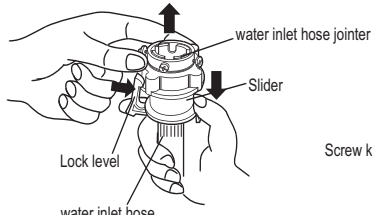
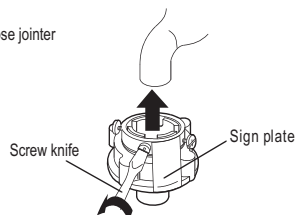
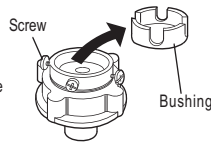

Figure 1
Figure 2
Figure 3
<p>Clean the detergent box and set it on the control panel seat.</p> <p>1.The method of dismantle: Push it up aslant and gently.</p> <p>2.The method of install : install it upwards and aslant and push it in .</p>  <p style="text-align: center;">Dismantle Install</p>	<ul style="list-style-type: none"> • The lint filter must be used during washing. • It must be cleaned in time after each using. <p>Lint filter:</p> <ol style="list-style-type: none"> 1.Push down the spring piece of the top lint filter to make the claws out of the filter cover, and then pull out the lint filter to get it down. (figure1) 2.Pull the back of the lint filter, and then you can get down it off the front cover of the lint filter. (figure2) 3.Sweep the rubbish in the lint filter. 4.Put the back of the lint filter into the front cover . 5.Put the lint filter into filter cover, and make it tight . 6.Make sure the lint filter well installed, or it can influence your use.  <p style="text-align: center;">Figure 1 Figure 2</p>
1. Press the lower end of the lock lever and push down the slider. Take off the water inlet hose jointer from the water inlet hose component. See to Figure 1.
2. Loosen the screw till the water faucet can be accessed. Put the jointer of the water inlet hose on the faucet. See to Figure 2. (If the faucet is too large and the jointer can not be set on the water faucet, please loosen the four screws and take out the bushing in the jointer. The front end of the faucet must be smooth, otherwise it may leak water. See to Figure 3.)